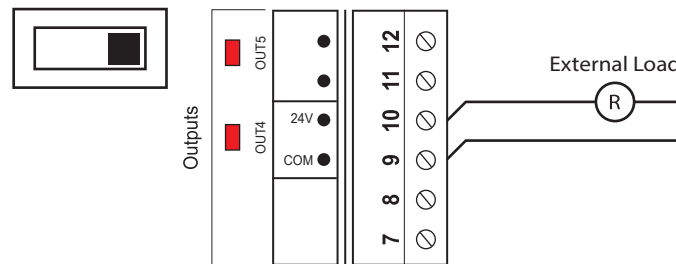

Figure 13 - Connection of active outputs 3 and 4
1) Active output (SOURCE). The C1000 is actively powering the load. (see Figure 13)